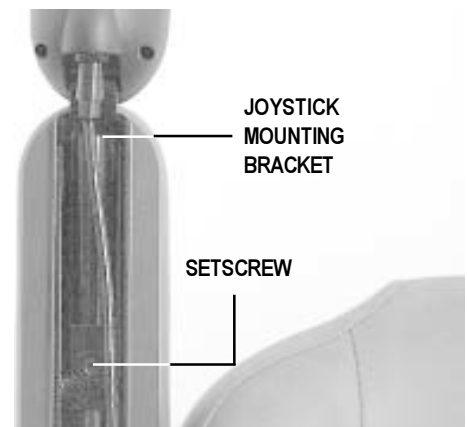

Figure 20. Joystick Extension
1. Use a 3/16-in. hex key to loosen the setscrew. See figure 20.